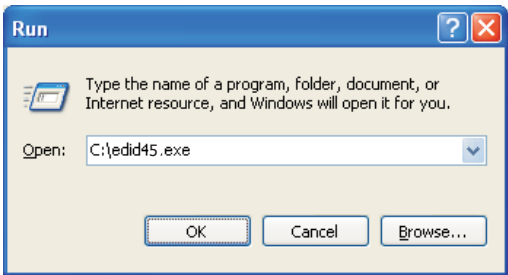

Fig. 6
- 3. At the submenu, type the letter of your computer's hard disk drive followed by :EDID45 (for example, C:\EDID45, as shown in Fig. 6).